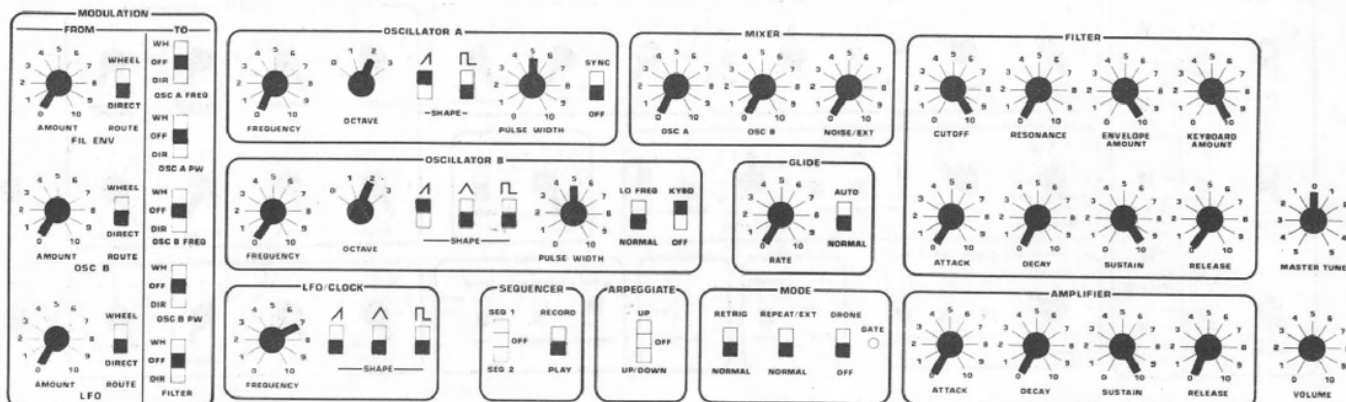

Figure 1-3
1. Patch according to Figure 1-3.